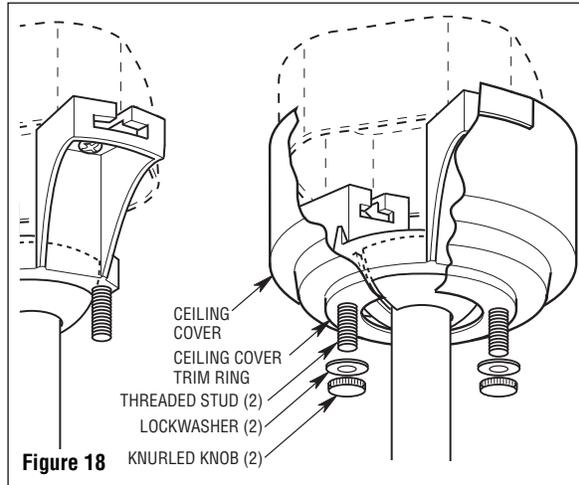

Figure 18
1. Lift the ceiling cover up to the threaded studs and turn until the studs protrude through the holes in the ceiling cover (Figure 18).
2. Position the lower ceiling cover trim ring onto the threaded studs and secure both the ceiling cover and ring in place by sliding lockwashers (supplied) over the threaded studs and installing the two knurled knobs (supplied). (Figure 18). Tighten the knurled knobs securely until the ceiling cover fits snugly against the ceiling.